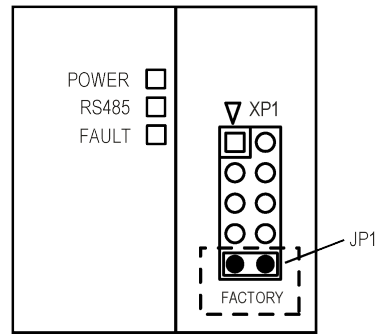

Fig. 6.3 Jumper JP1
3. Insert jumper JP1 (see Figure 6.3) onto pins 9-10 (bottom row). Now the module is operated with default network parameters, the user settings are saved.